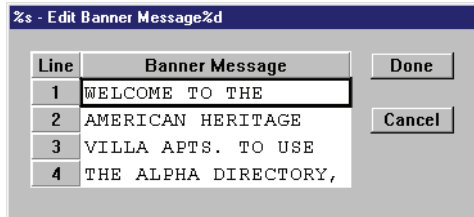

Figure 10-7: Edit Banner Message1 Window Filled
- The Edit Banner Message window should look similar to Figure 10-7.